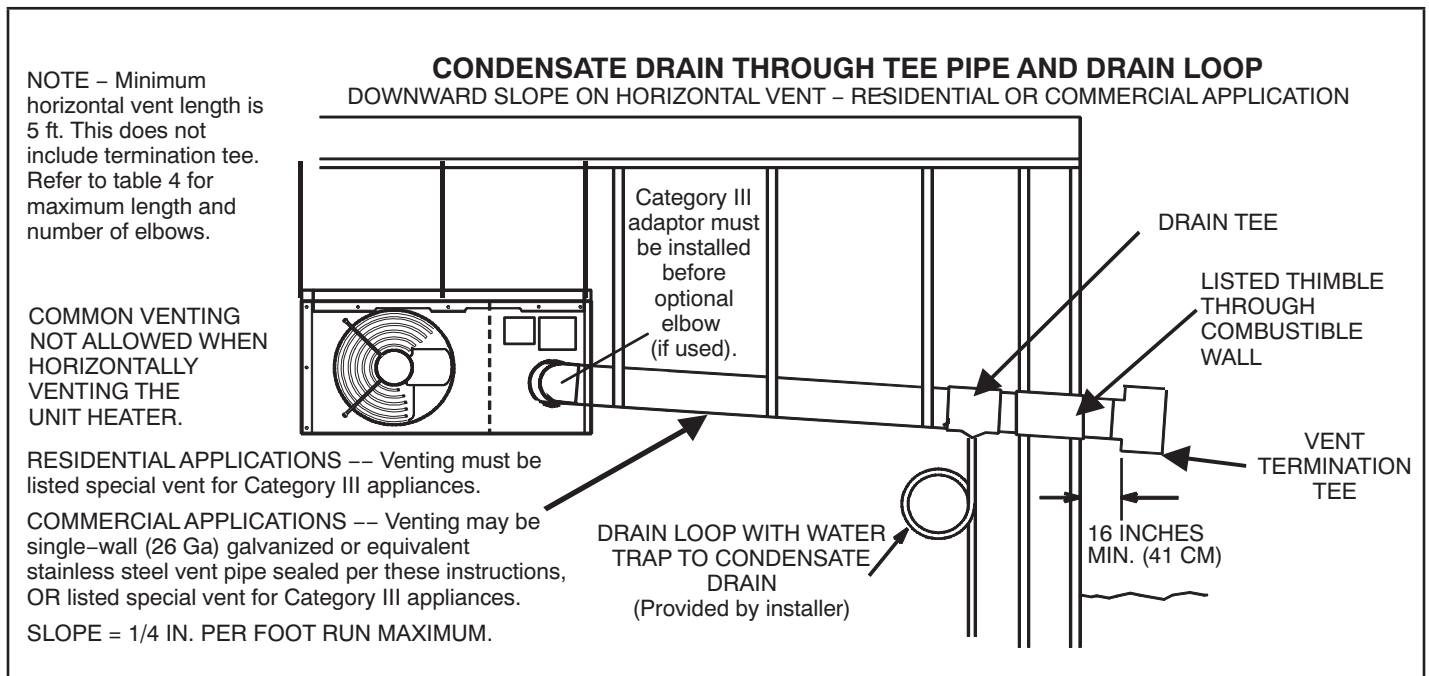
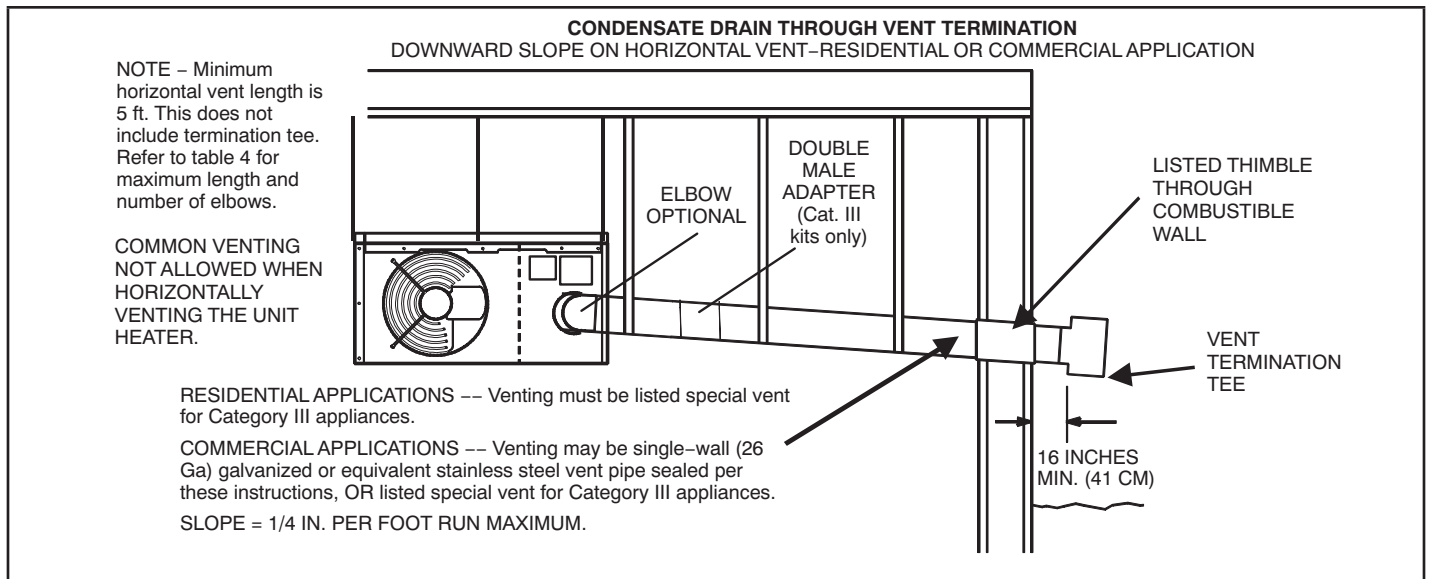

FIGURE 8
FIGURE 9
- 17 - For downward sloped vent, condensate drainage can be collected in a tee pipe section (figure 8) with drain loop similar to one used for upward slope vent, or allowed to drip through the vent termination, if permitted by authorities (figure 9).